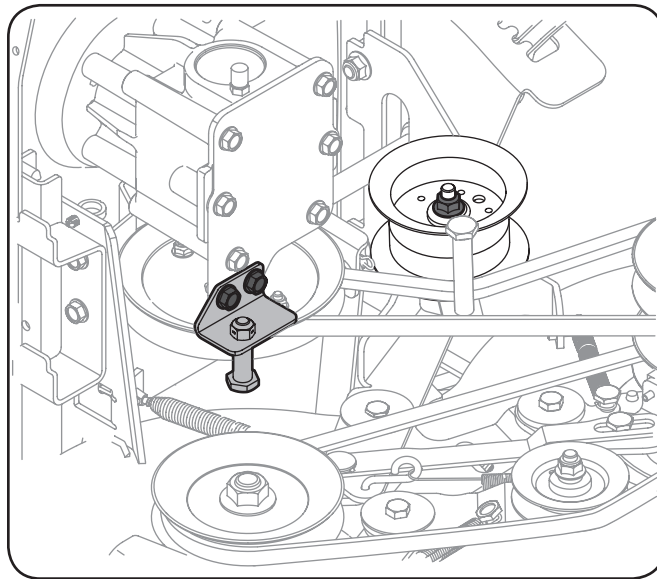

Figure 6-8
4. Remove the left belt keeper shown in Figure 6-8 by removing the two hex screws that secure it.